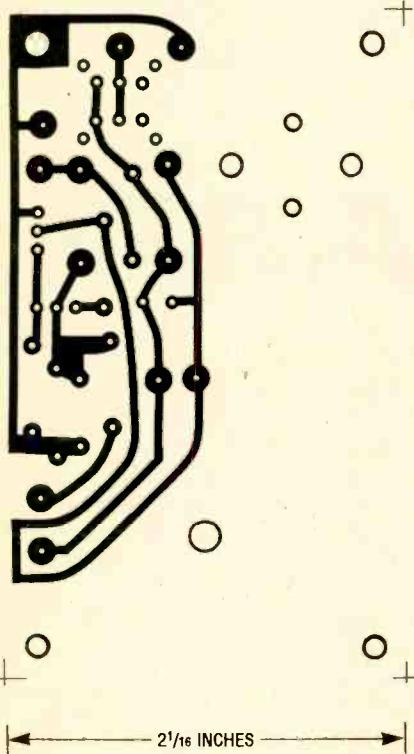
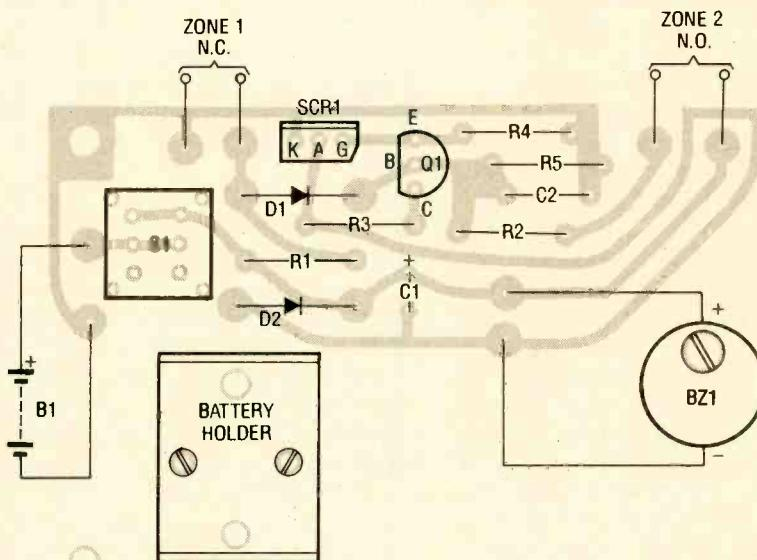

Fig. 2. If you want to build the project from scratch, here is a foil pattern for the printed-circuit board.
Fig. 3. When installing the board-mounted parts, be sure that each component is placed in the correct position, with the proper orientation.
Fig. 3. Details of the scoring jig's construction. The scoring jig is nothing more than two pieces of hard wood attached at a right angle, and a slider made from a block of wood and an angle bracket. The jig also has a slot cut into one edge for a glass cutting tool.
**Building the Scoring Jig.** The second part of the project consists of a scoring jig; see Fig. 3 for details of its construction. The dimensions given assume that you'll be using the jig for fifth- (25.4 milliliter) or liter-sized bottles. An ordi-
The glass cutter is held securely in place by a tight-fitting notch sawed into the side of the jig (see Fig. 3), and prevented from jumping out by a metal brace screwed to the wood. When the cutter needs replacement, the brace can easily be removed, and a new one installed.
who want to build the project from scratch, a foil pattern for the PC board is provided in Fig. 2, and Fig. 3 is a parts-placement diagram. Simply install each part on the printed-circuit board in the order that they appear in the Parts List.
ground lead is required. So you must solder a length of wire to the tab, and then connect it to the printed-circuit board, as shown in Fig. 3.
*Fig. 2.* While the Electronic Novelty Light is simple enough to be assembled on a small section of perfboard, this foil pattern is provided for those who prefer printed-circuit board construction.
*Fig. 3.* There are only four components mounted to the printed-circuit board—hardly enough parts to screw up. In fact, the only error that might occur during construction has to do with the orientation of the SCR.
To make things even more simple, a foil pattern for the author's printed-circuit board is shown in Fig. 2. After etching your board, install the board-mounted components guided by Fig. 3.